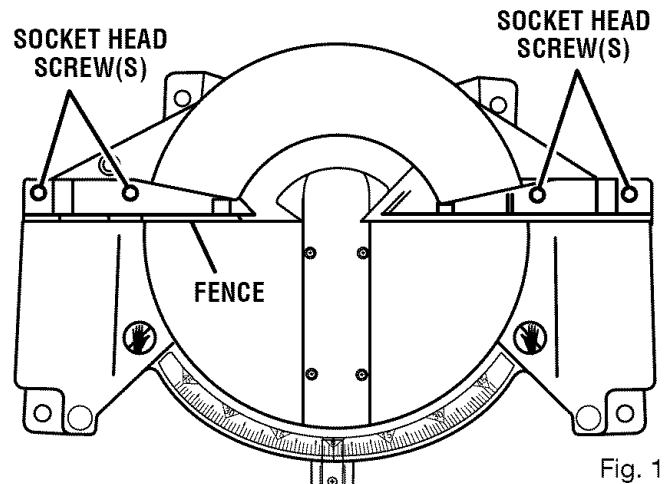

Fig. 18
- Using the blade wrench, loosen the socket head screws securing the fence. See Figure 18. Adjust the fence left or right until the framing square and zero clearance throat plate are parallel.